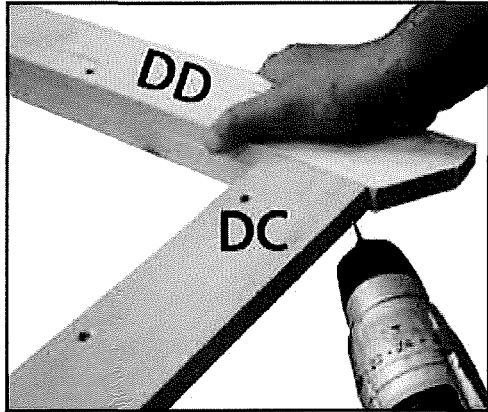

Fig 9
- 12 Drill (not too deep) and screw in each corner with 40mm screws (fig 9).